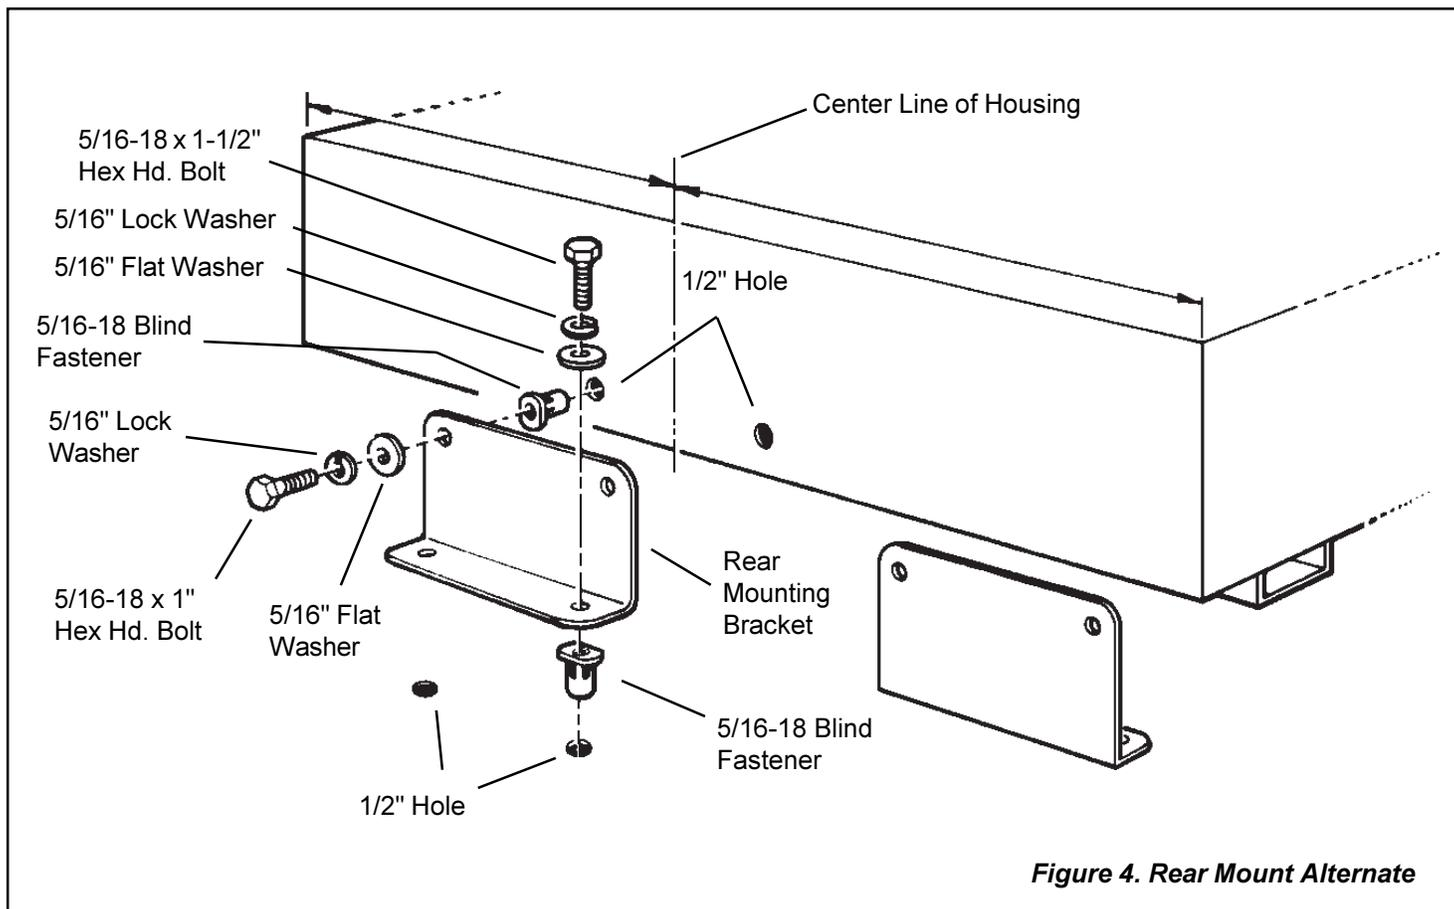

Figure 4. Rear Mount Alternate
2. As with Figure 4., the bracket will be mounted to the bottom first.